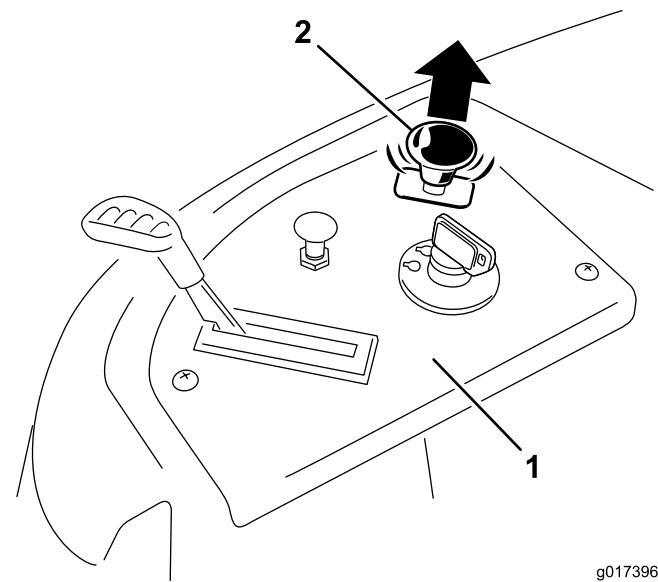

Figure 15
3. Pull up on the blade control switch to move it to the On position and engage the blades (Figure 15).